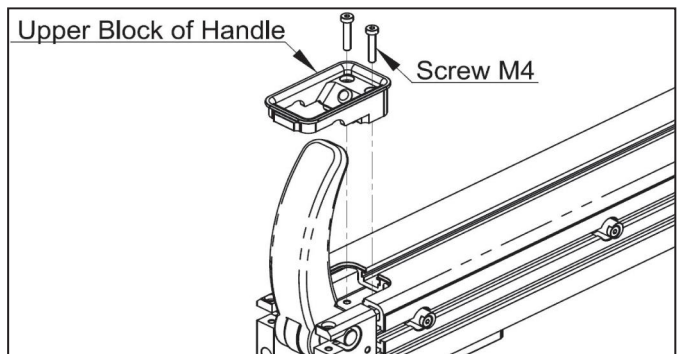

Fig. 9-7
(7) Take out the upper block of the handle by removing two M4 screws, as shown in Fig. 9-7.